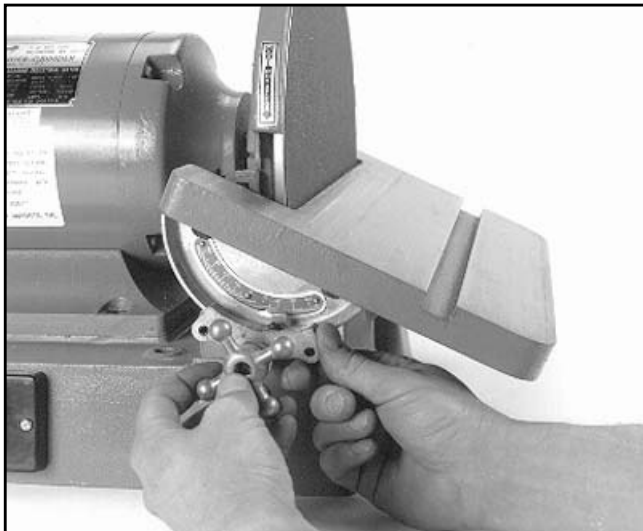

Figure 6. Attaching disc table.
4. Install table securely between the two sliding rails as shown in **Figure 6**.